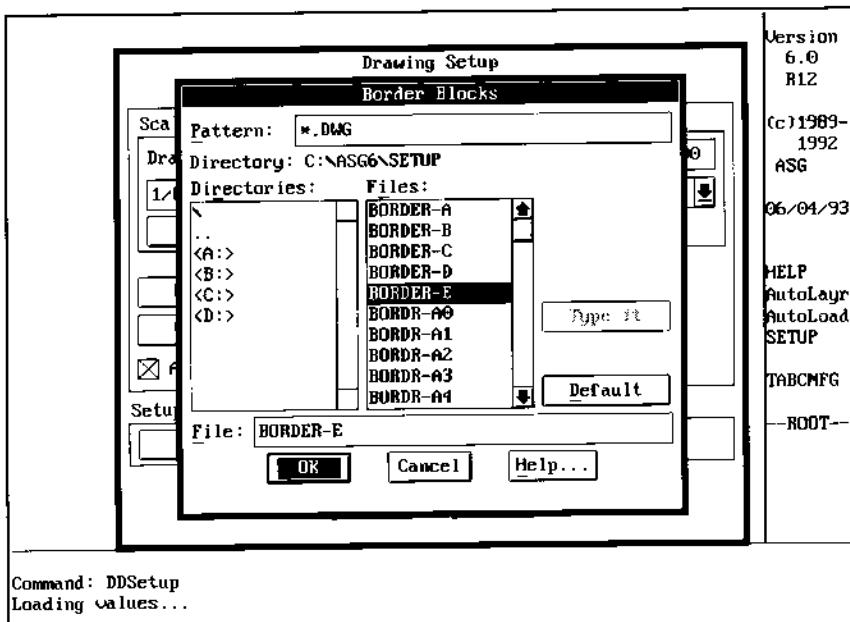

Figure 9.
13. Choose the Border... pick box to insert an E size border into the drawing. The Border Blocks subdialog box opens listing the borders as shown in Figure 9. Pick OK to close the dialog box.